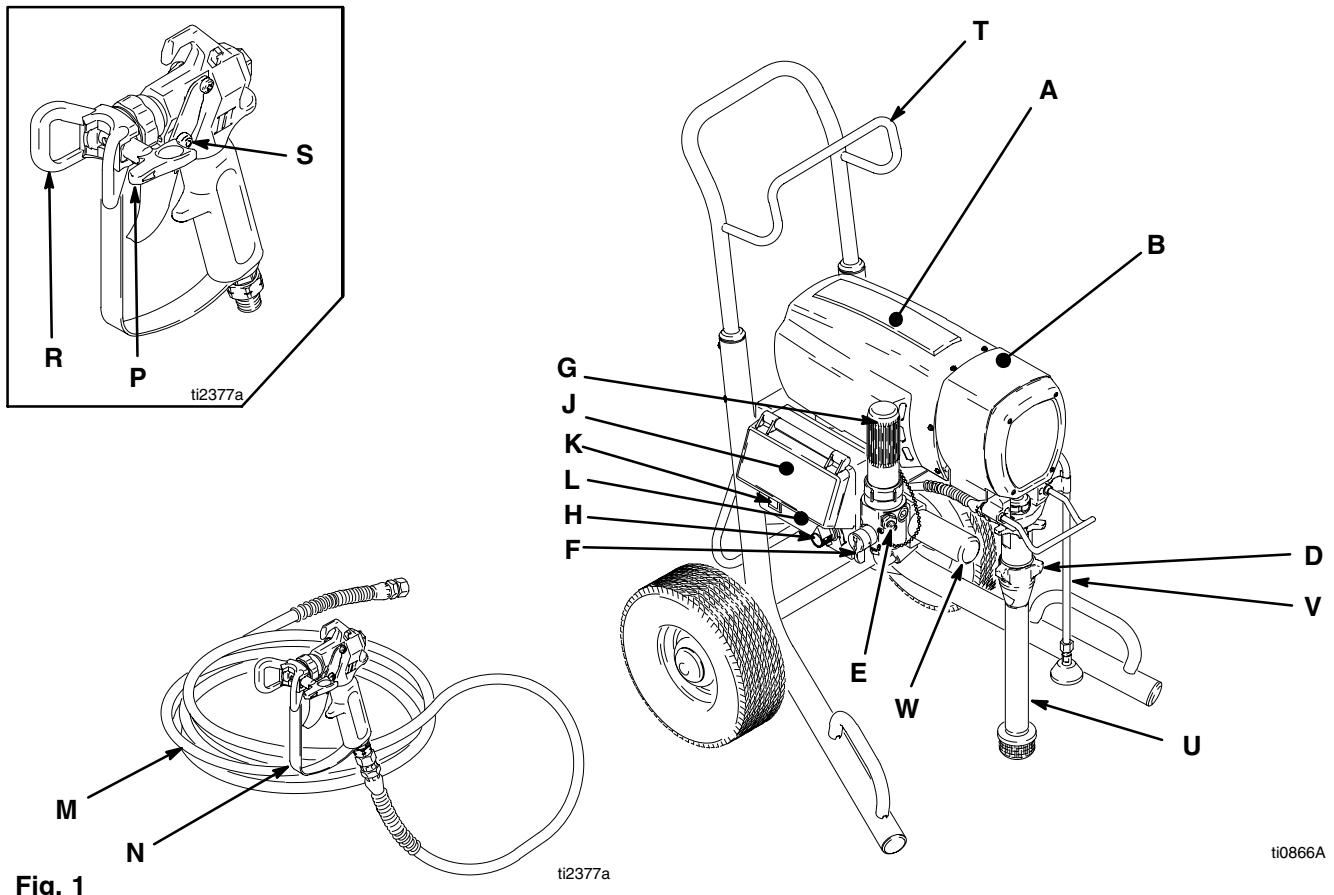

Fig. 1
1. All models require a grounded outlet for power connection. Circuit must be 50/60 Hz with an Ampere rating equal to or greater than the sprayer. Set Ampere switch (**L**, Fig. 1) to lower setting if needed.